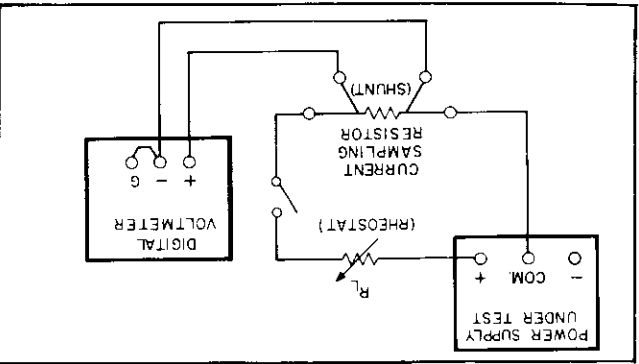

Figure 5-3. Output Current, Test Setup
m. Connect the test setup shown in Figure 5-3 to the +20V output. Substitute a short for R_L and leave the load circuit switch open.
Connect the test setup shown in Figure 5-3 to the +6V output. Close the switch, set the total resistance of R_L and the current sampling resistor to an initial value of 2.4 ohms or greater, and set the output voltage to 6 volts.
g. Connect the test setup shown in Figure 5-3 to the +6V (or +18V) output. Make the total resistance of R_L and the current sampling resistor 2.4 ohms for the Model 6236B (or 18 ohms for the 6237B) to permit operating the output at full load. R_L should have a power rating of at least 20 watts.
k. Check the rated output and ammeter accuracy of the +20V and $-20V$ supplies similarly by connecting the test setup of Figure 5-3 to each output in turn. For each 20V supply: make the total resistance of R_L and the current sampling resistor 40 ohms, set the $\pm 20V$ VOLTAGE control for a current indication on the DVM of 0.5A, check that